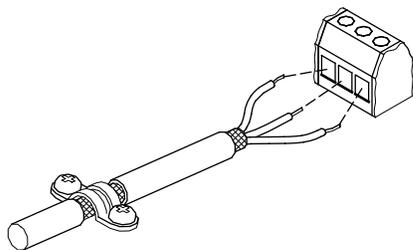

Fig. 10 Stripped cable with screen and wire connections
- Connect the screens of the cables to the frame at both ends. The screens must be as close to the terminals as possible. See fig. 10.